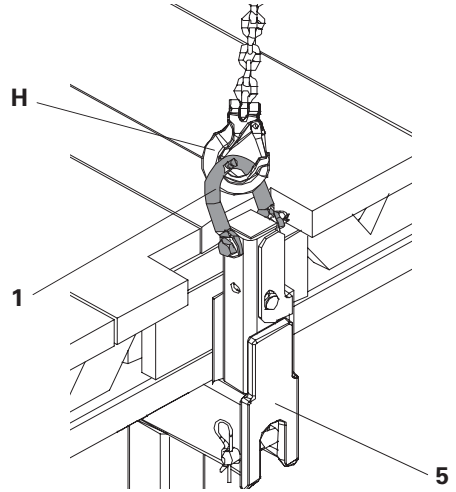

Fig. 8a
Only one Crane Eye CB 240-2 0.7 t may be fixed to each climbing bracket (5). (Fig. 8a)
1. Attach Hook (H) of the lifting gear to the Crane D-Ring (1) of the Crane Eye CB 240-2 0.7 t and secure. (Fig. 8a)